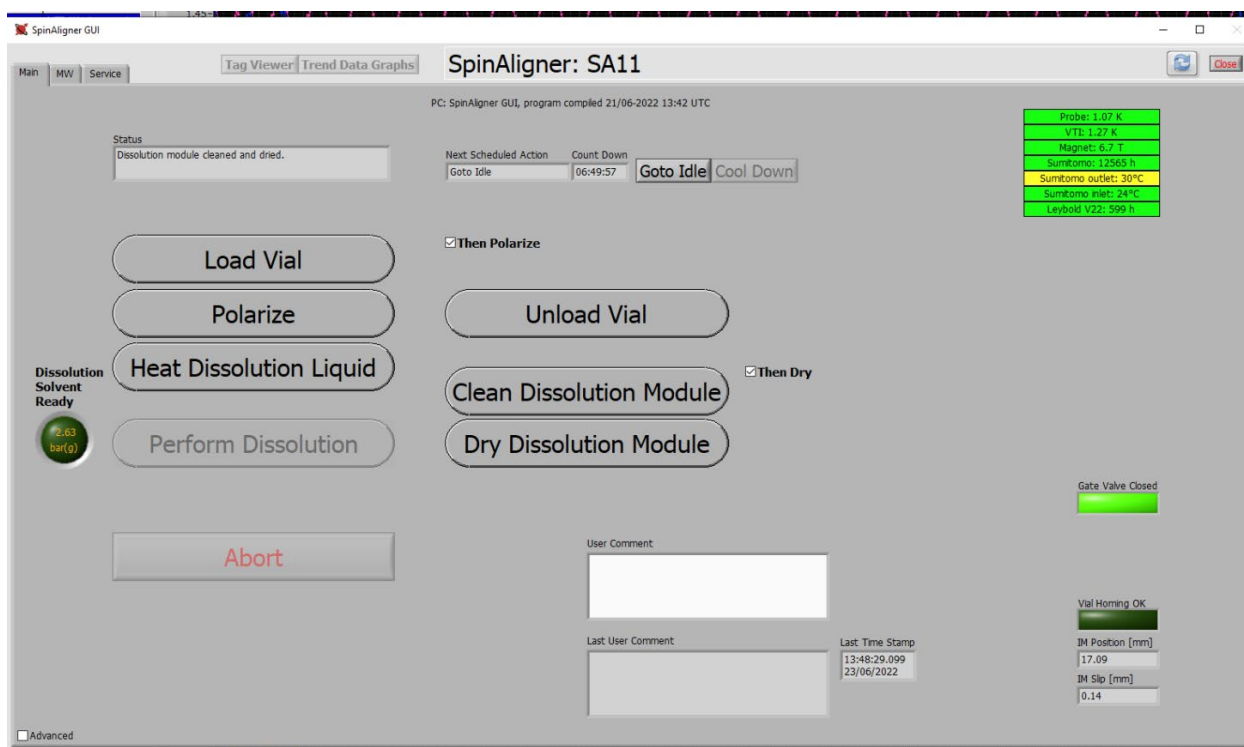
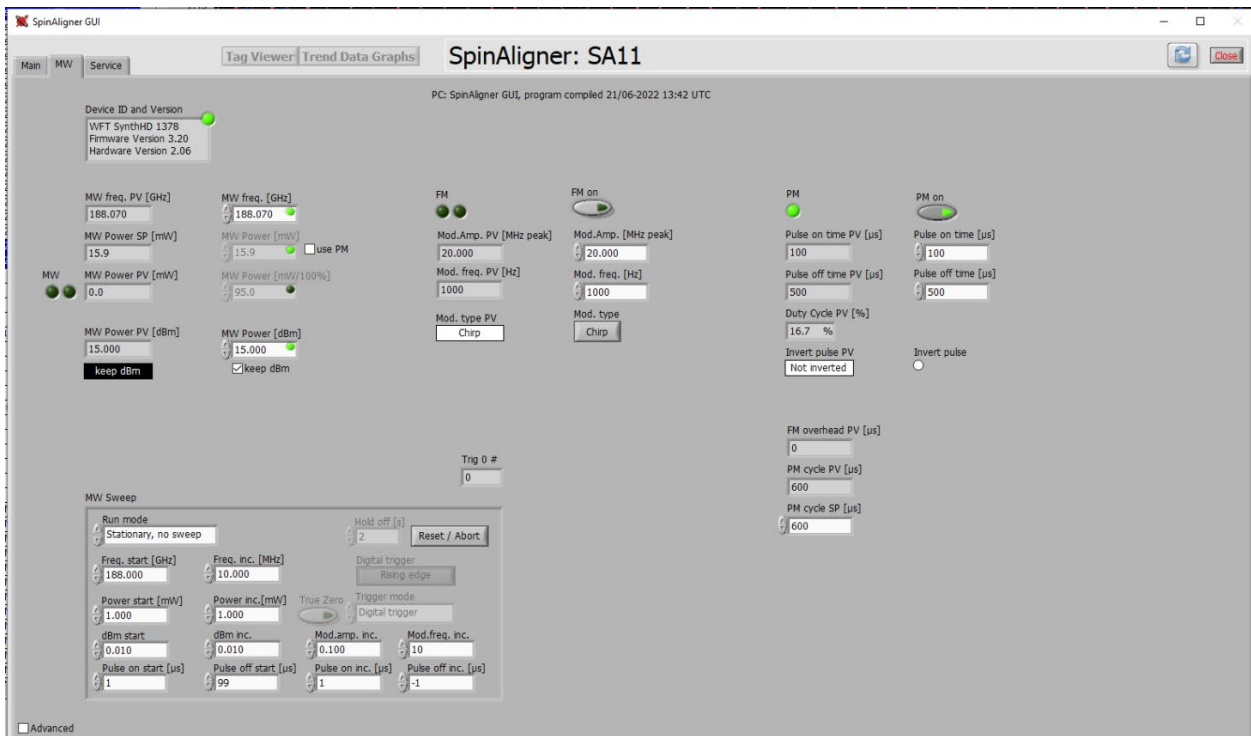
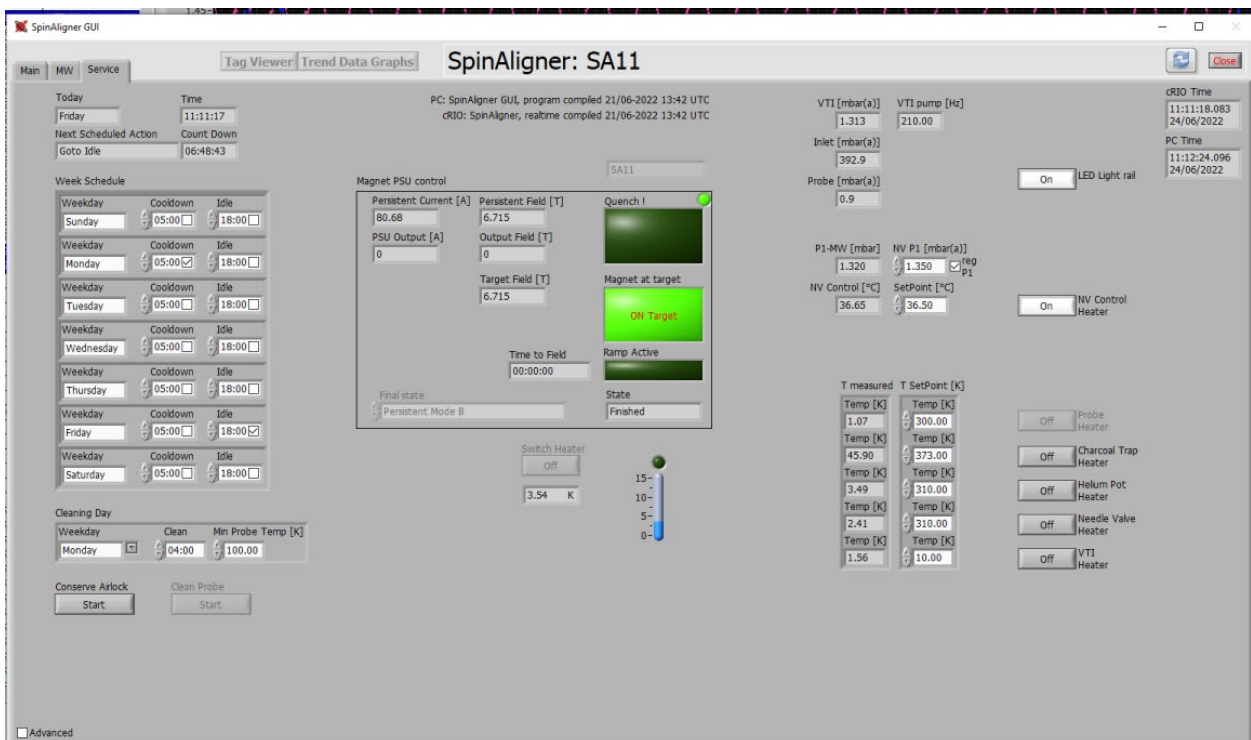

Figure 8: SpinAligner software, Main panel.
Figure 9: SpinAligner software, MW panel.
Figure 10 SpinAligner software, Service panel.
The important windows are the Main panel, Figure 8, the MW panel, Figure 9, and the Service panel Figure 10. The automated procedures for loading the vial, dissolution etc. are found on the main panel, while the MW is used for optimizing the microwaves for optimum polarization. The Service panel provides further maintenance controls. The tick box “Advanced” enables further controls in all panels and access to IM panel and Control panel for advanced users.
2. Click the Load Vial button  in the software (Figure 8 and follow the on-screen instructions. Typically, the fluid path is left with the previous sample vial attached, after a cleaning cycle*. Otherwise, attach a clean, dry vial (with a used O-ring). The software purges the fluid path with helium gas for 30 s.